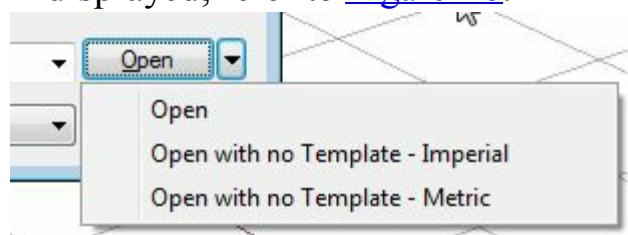

Figure-18. Open drop down
- If you want to create a document without using any of the above template but with the desired units only then click on the down arrow next to **Open** button in the dialog box. A drop-down will be displayed; refer to Figure-18.